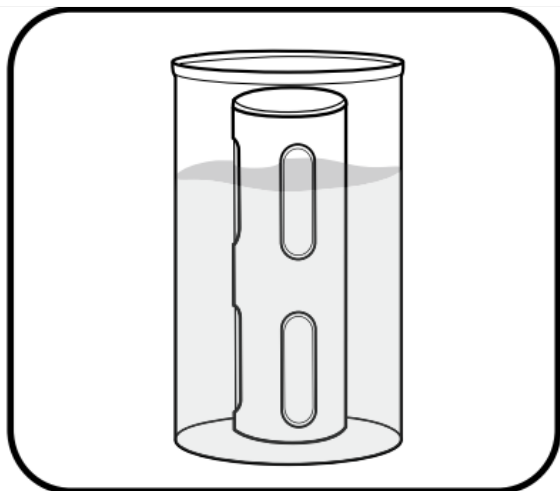

Figure 23. Soak to Remove Heavier Biofouling
**STEP 2.1** | If the guard has a thick layer of filaments or barnacles, soak it for 10-15 minutes in a solution of clean water and a few drops of the same dishwashing liquid that contains a degreaser (Figure 23).